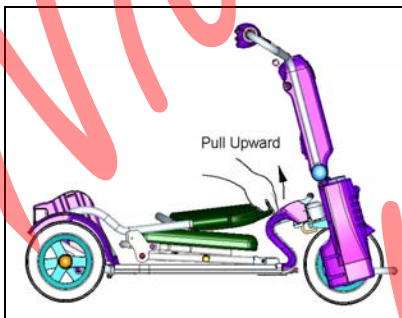
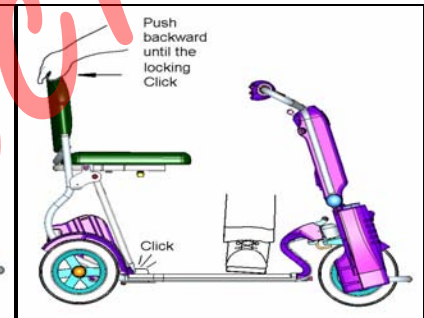

Fig 5a
Fig 5c
- Unfold the seat to its normal position by holding the backrest and pulling up and back (fig 5a). Continue pulling (5b) until it reaches the driving position and you will hear a click as it locks into place. Make sure it has locked in by making sure you hear the click, and by trying to push the back of the seat forward. You may find this stage easier by holding the scooter still with your foot on the Buddy floor (fig 5c).